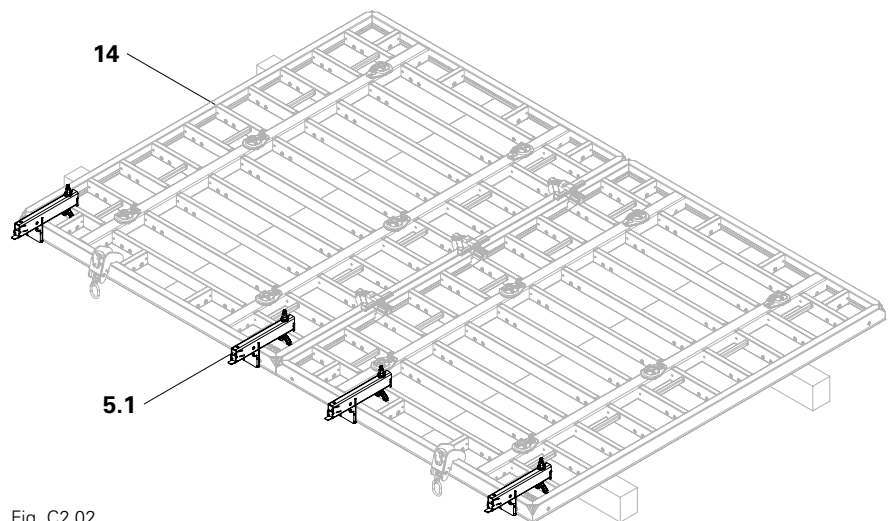

Fig. C2.02
4. Fix base part (**5.1**) in assembly position. (Fig. C2.02 + C2.02a + C2.02b)